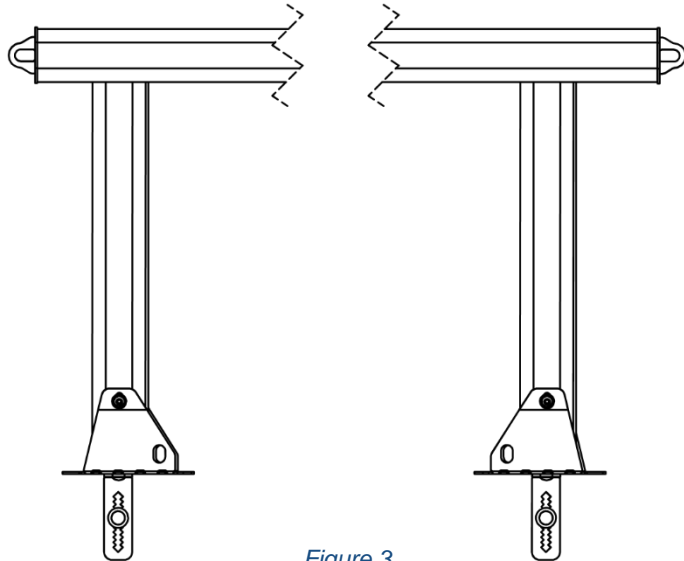
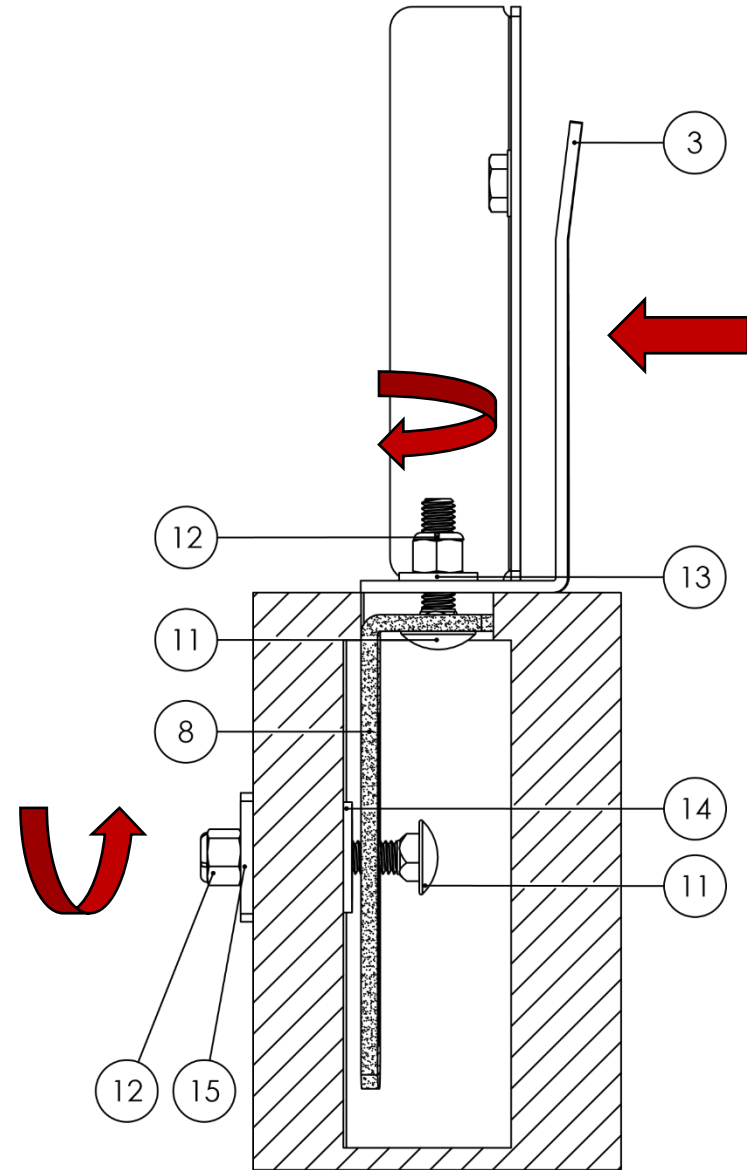

Figure 3
Figure 4
2. **Install the Rack Bases.** Examine the Bases (Item No. 3) and notice an oval shaped eyelet on its face. These eyelets should be positioned so that they face each other as shown in Figure 3. To install the base, place it on the truck's bedrail and position it so that the opening found on the bottom of the base is aligned with the bolt projecting up out of the stake pocket. As shown in Figure 4, slide the base forward so that its bottom can be clasped between the Carriage Bolt (Item No. 11), the Washer (Item No. 13) and the Lock Nut (Item No. 12). Once the base has been pushed forward, use a wrench to tighten the assembly until the washer and lock nut are in contact with the bottom of the base. **DON'T forget to apply a little grease to the screws before tightening or it may be hard to remove the nuts later.**